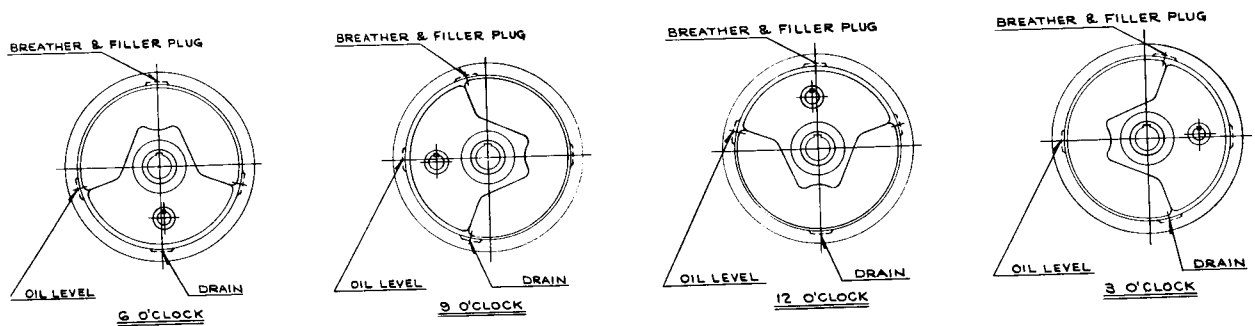

Fig. 2 - Shaft Mounted Units - Breathers, Oil Level, Drain Locations (Standard)
Mounting of the turnbuckle and motor must be such that the unit operates with the input shaft within $\pm 15^\circ$ from the horizontal or vertical centerlines as shown in Fig. 2.
Locate filler and oil level plugs as shown in Fig. 2 for the mounting selected. Fill the unit to the level indicated in Fig. 2 with a clean, high quality petroleum oil. The oil must be non-corrosive to gears or ball bearings, neutral in reaction, free from grit or abrasives, and have good defoaming and oxidation resisting properties. Lubricants must be within the viscosity shown in Table 1 for the ambient temperatures shown. Approximate oil capacities are shown in Table 2.
*Oil capacities are approximate and vary with operating position. Fill unit to level indicated in Fig. 2.